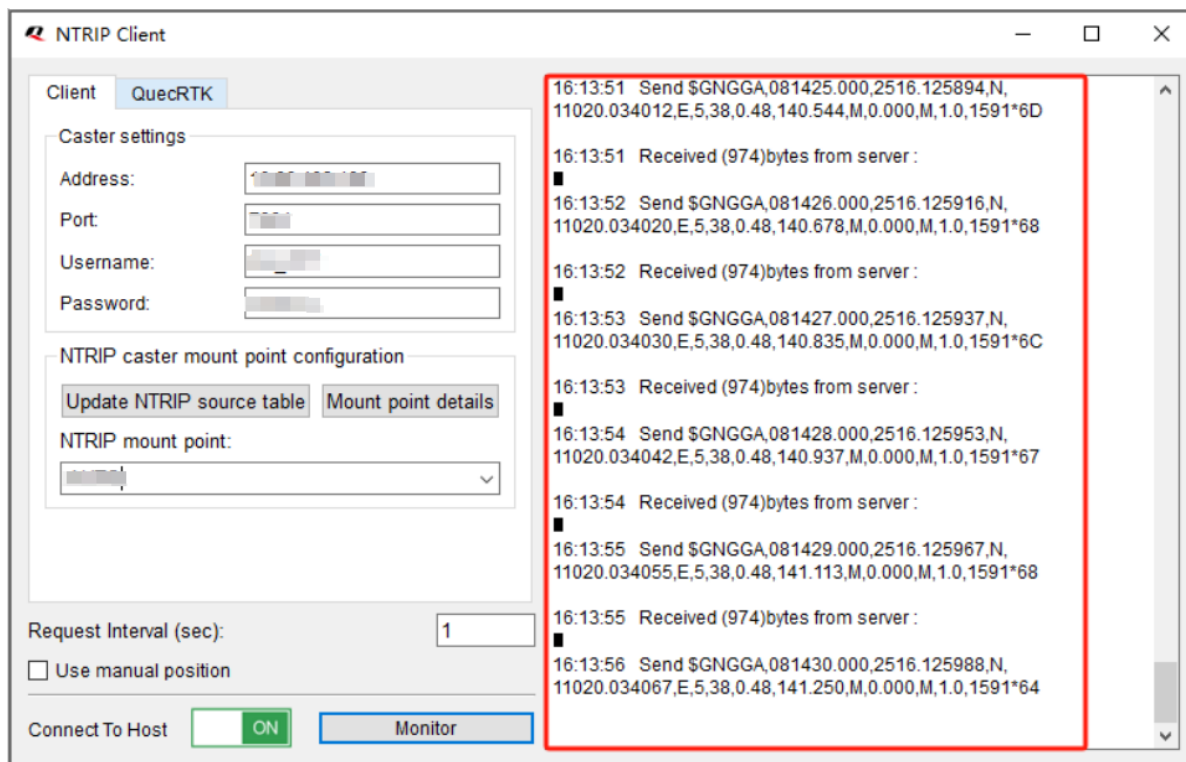

Figure 28: Connected to Server Successfully
- Step 6:** Switch ON the **“Connect to Host”**. If the configuration is correct, you can see the messages sent to the RTK server and differential data received in the box on the right as shown in Figure 28: Connected to Server Successfully.